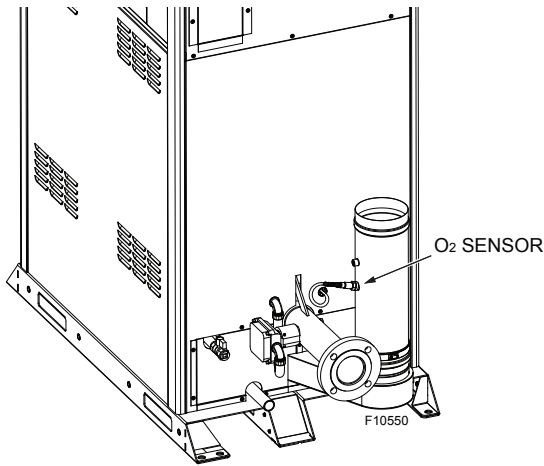

Figure 3. O₂ Sensor Location
- a. Install the vent with the O₂ sensor facing the boiler. Connect the O₂ sensor cable to the O₂ sensor. The O₂ sensor is installed in a tilted bung to prevent moisture build-up. See **Figure 3**.